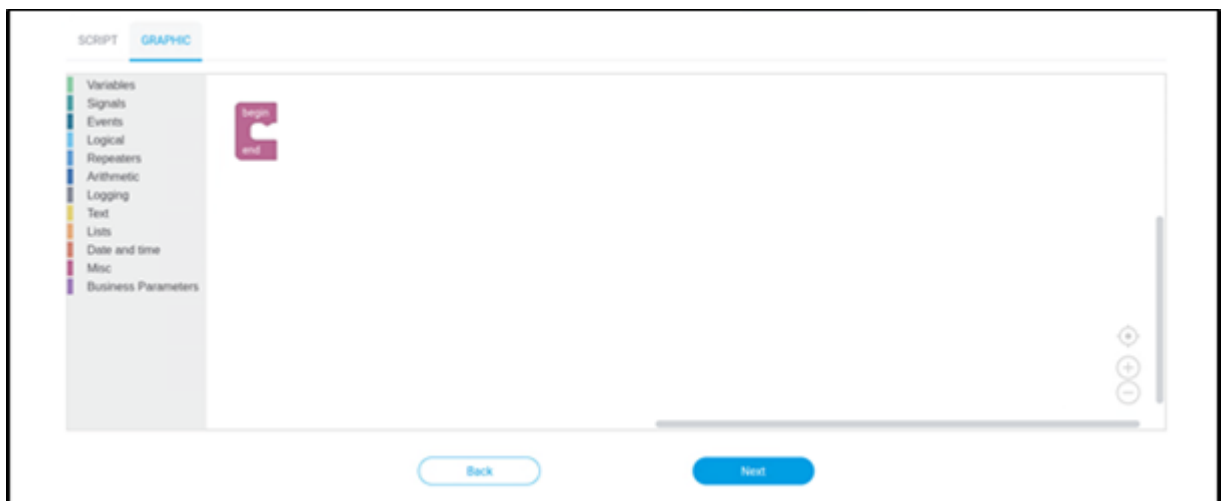

Figure 19: Add asset - GRAPHIC mode
5.3.4 ④ Composition
In this step, the recorded signals are interpreted, from which logical conclusions about the asset behavior can be drawn. As a result, measurement values, maintenance information and production states are available. In this step ④ **Composition**, conditions for the interpretation of the signals are defined. There are two ways to enter these conditions: In the **SCRIPT** section, text-based code is displayed and edited (see Figure 20), whereas graphical blocks can be used in the **GRAPHIC** section (see Figure 19). These are programming blocks/modules that can be put together and connected, similar to the individual pieces of a puzzle. The advantage of this modular system is that you can create the commands even if you are new to programming in general. On the left side of the screen, all available function categories are listed, divided and sorted by color. Drag-and-drop can be used to move the required blocks to the editing area on the right and place them in the correct order. This is where the actual asset logic is defined.